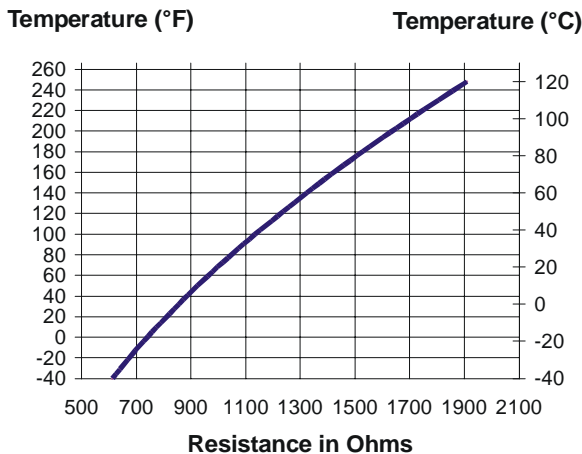

Figure 15: Nominal Temperature vs. Sensor Resistance
- d. Refer to Figure 15 to verify that the measured temperature and resistance conform to established temperature and resistance values.
- e. If the measured values conform to the values in Figure 15, proceed to Step 3.